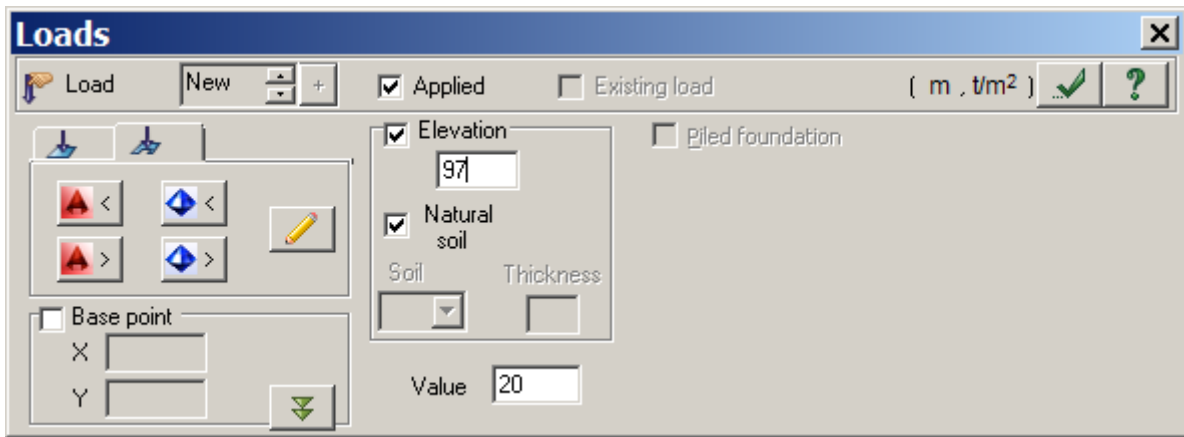

Figure 9.19 Loads dialog box
- ⇒ In the **Loads** dialog box (see Fig.9.19), select the type of load – **Arbitrary load**  (the second tab).